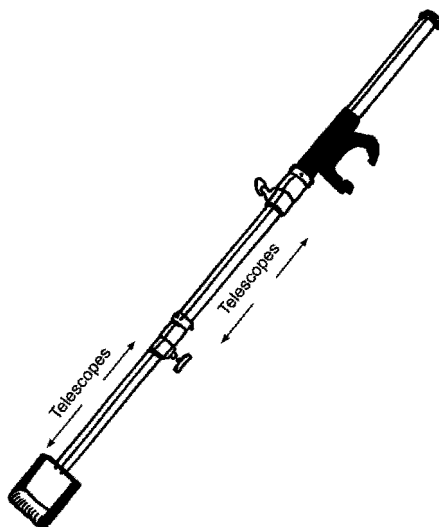

Figure 2.69 Telescoping hangers.
1. Telescoping hangers (Figure 2.69) are designed for hanging lighting fixtures from overhead grid pipes, extending these fixtures well down into a set.